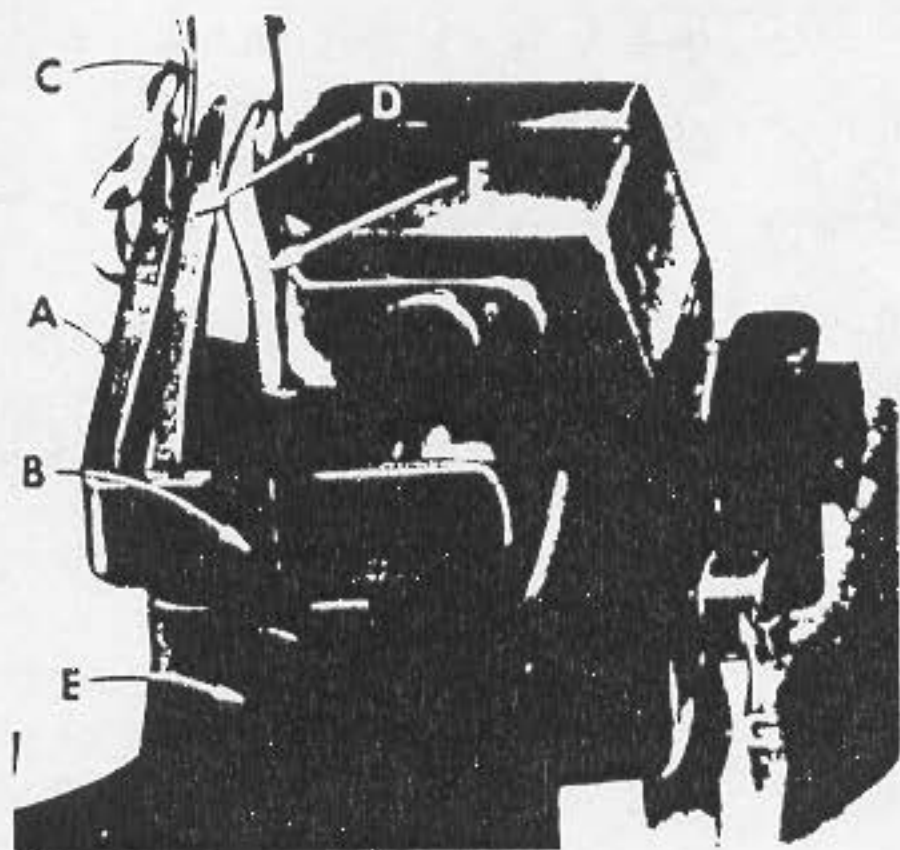

Fig. 5
Set the rear needle guard (A, Fig. 5) as high as possible without interfering with either the lower spreader or movement of the lower knife holder, but still in position to deflect the needle forward .002 to .004 inch. Screw (B) is used to set rear needle guard. Make sure there is no interference between rear needle guard and lower spreader.
Now complete the lower spreader adjustment. As lower spreader moves to the right its point should be set into the needle scarf (C, Fig. 5) until the needle springs forward from the rear needle guard surface another .002 to .004 inch. This setting
Insert rear needle guard into the hole in the throat plate support bracket. Set height of guard (F, Fig. 5) approximately $3/16$ inch below the throat plate seat. Bring the 401 needle down until its point is $1/64$ inch below the widest portion of the guarding surface. Then bring the guard forward to deflect the needle forward
Assemble front needle guard (D, Fig. 5). When lower spreader is springing needle off rear guard, set the front needle guard as close as possible to the needle without touching. Screw (E) is used to adjust and set the front needle guard. After making this setting, assure there is no interference between needle guards and differential feed dog.